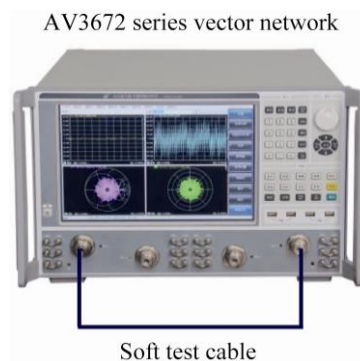

Fig. 11.13 Block Diagram II of Connection of Full Double-port Calibration
- 7) After calibration, connect the system as shown in Fig. 11.13. Select [Through type] to start through type calibration.
1) Click [Measurement] > [S12]. As shown in Fig. 11.13, reconnect the test cable.